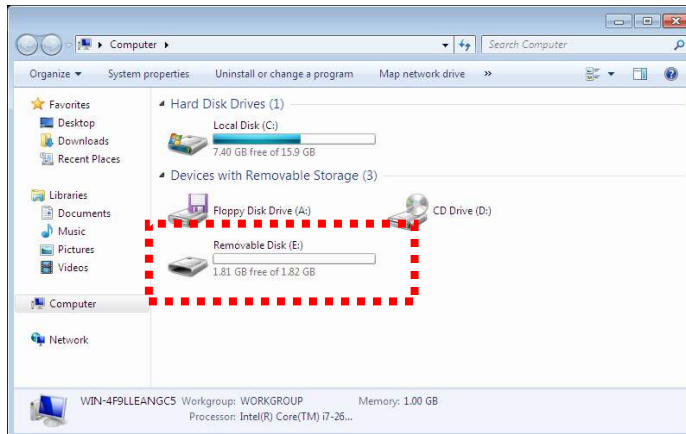

Figure 12: new HDD
3. A new hard disk drive will appear, see **Figure 12**.